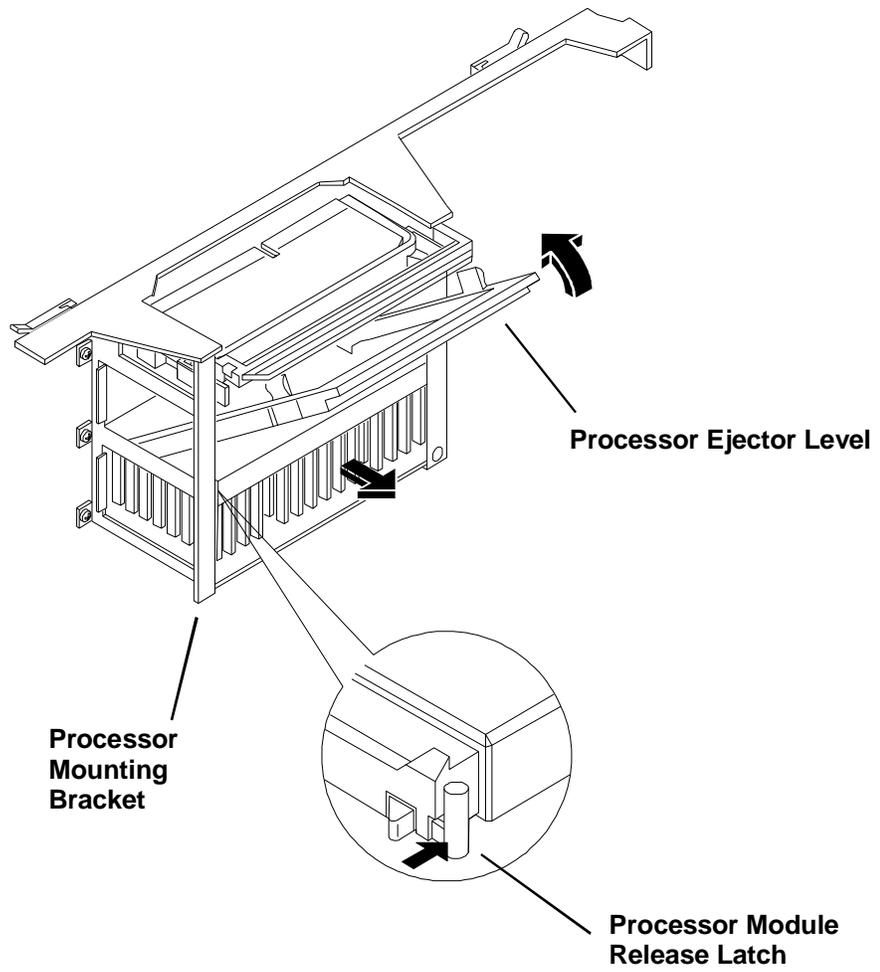

Figure 1-11. Removing the Processor Module
1. Press in on each processor module release latch until it remains in (see Figure 1-11). If the latch does not stay in, you must hold it in while removing the module.
2. Lift up on the processor ejector lever until the processor pops out of the processor socket (see Figure 1-11).